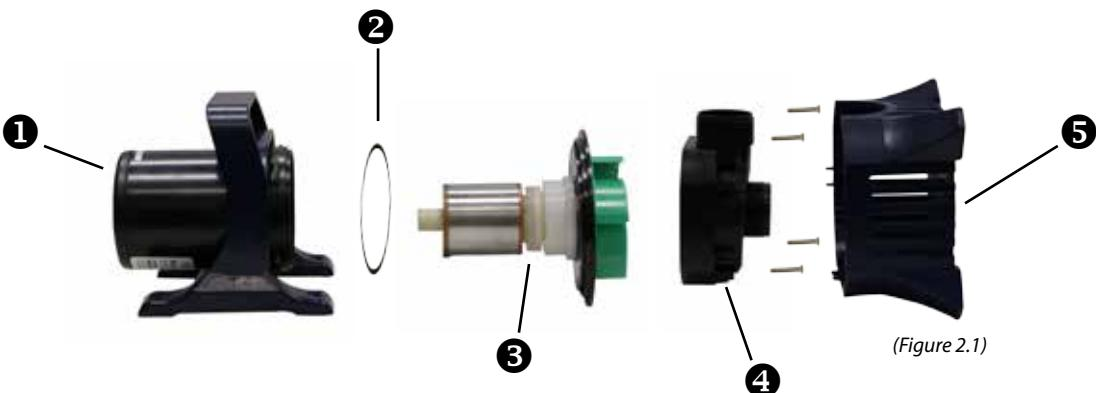

Figure 1.1
- (I) Inspect the power cable before using. The power cable should be protected at all times to avoid punctures, cuts, bruises and abrasions. Never cut the cord.
- (J) Never handle power cords with wet hands.
- (K) To avoid injury, do not touch moving or hot parts.
- (L) Do not use power cable to lift pump. (*Figure 1.1*)